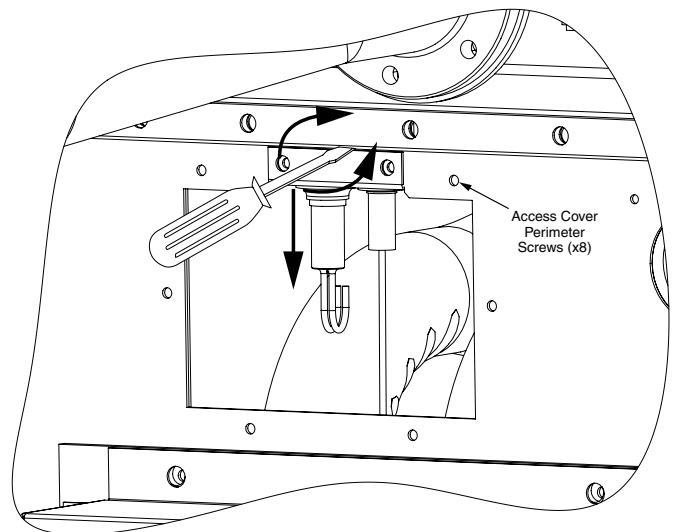

Figure 9. Ignitor Flame Sensor Bracket
7. Lift the assembly and bracket straight up out of the burner box and off the HX panel. **NOTE:** Use of a flat blade screwdriver between assembly bracket and top of burner mounting bracket to help leverage bracket off may be required. See Figure 9.